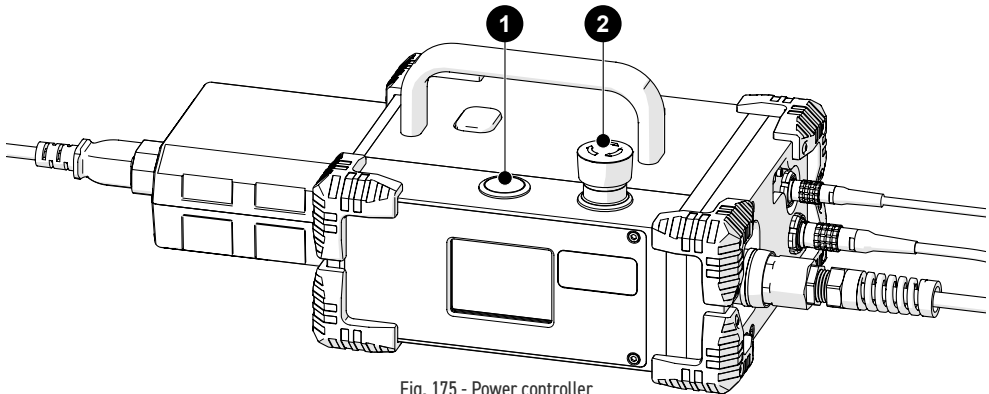

Fig. 175 - Power controller
3. Locate the **2** red stop push-button on the power controller. Rotate this button clockwise to unlatch (Fig. 175).
4. The **1** power button (Fig. 175) on the power controller energizes the system.